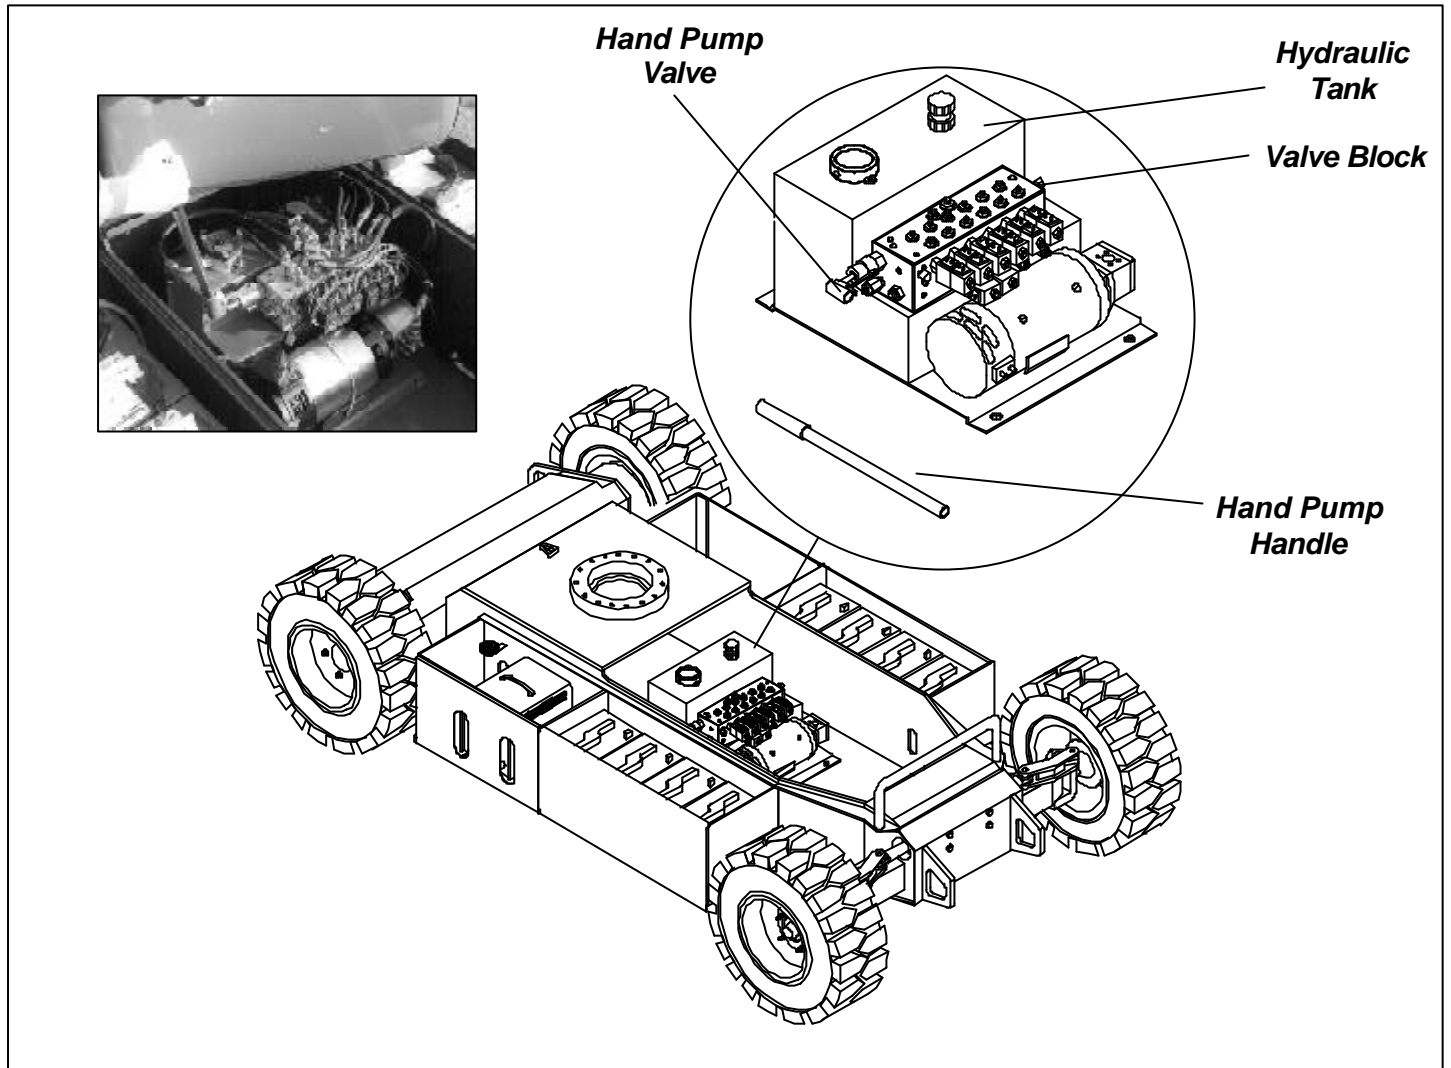

Figure 3-4: Manual Telescopic Retraction
MANUAL TELESCOPIC RETRACTION (SEE FIGURE 3-4)
2. The Handpump is attached to the Main Manifold Block. Remove the Handpump Handle from the clips on the side of the Chassis and insert into the Handpump Valve as shown in Figure 3-4.